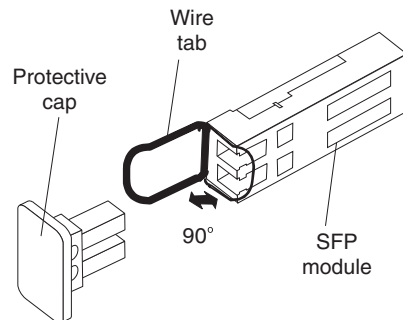

Figure 54. Unlocking the SFP module latch - wire variety
- For SFP modules that contain wire tabs, unlock the SFP module latch by pulling the wire latch outward 90°, as shown in Figure 54.